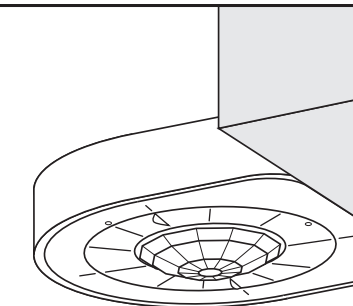

Figure 2A
- When the photocell is pointed up, it is typically pointed at a skylight. It will only detect daylight. There will be little or no contribution from the fixtures. The graph in **Figure 2A** tracks the value of a linear photocell throughout a day. It is assumed that it is a cloudless day so the increase and decrease of the daylight is relatively linear. The far left of the graph starts out at night and shows a very low level reading. At dawn, the level begins to increase. At some point, based on the setting of the trigger point, the lights will be turned off since there is enough contribution from the daylight. The photocell reading will begin to decrease around noon until the level matches the trigger point, then lights will be turned back on.